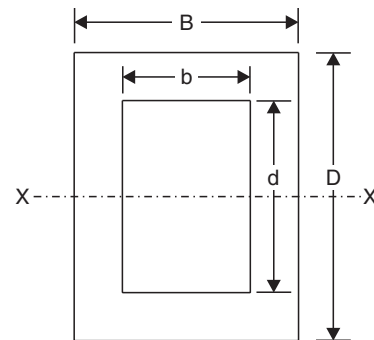

Fig. 5.10
**2. Rectangular lamina with a centrally situated rectangular hole.** Refer to Fig. 5.10. Let in a rectangular lamina  $B \times D$ , a rectangular hole  $b \times d$  be made centrally.